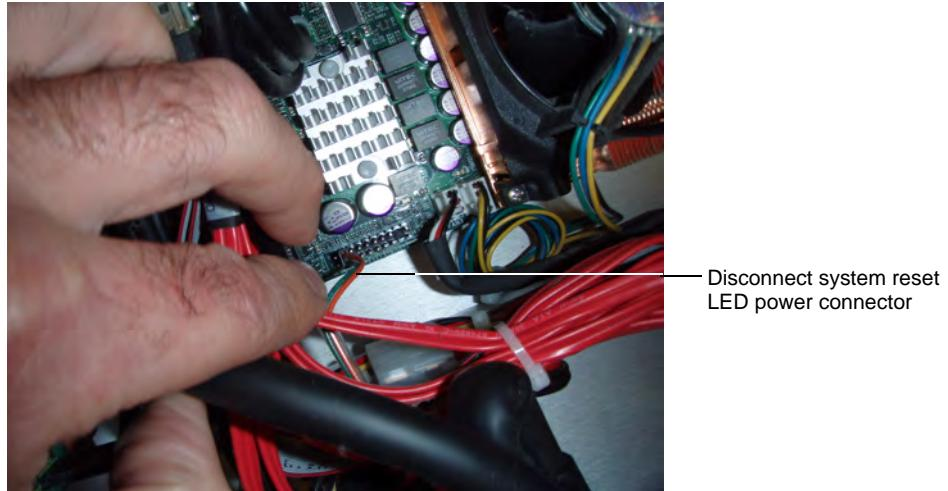
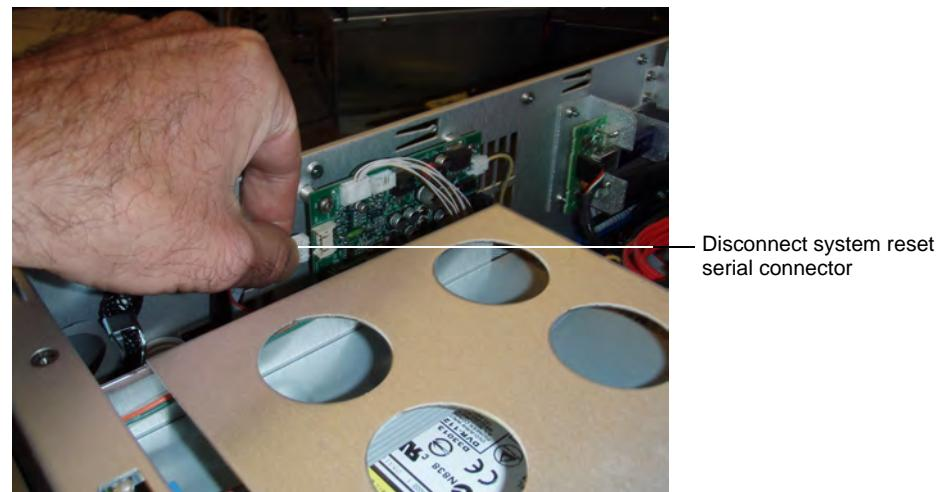

Figure 12 System Reset LED Power Connector
Figure 13 System Reset Serial Connector
10. Follow the system reset LED power and serial connections back to their origins on the motherboard, and disconnect both cables, as shown in Figure 12 and Figure 13. You disconnect these cables so they do not obstruct the removal of the housing assembly.